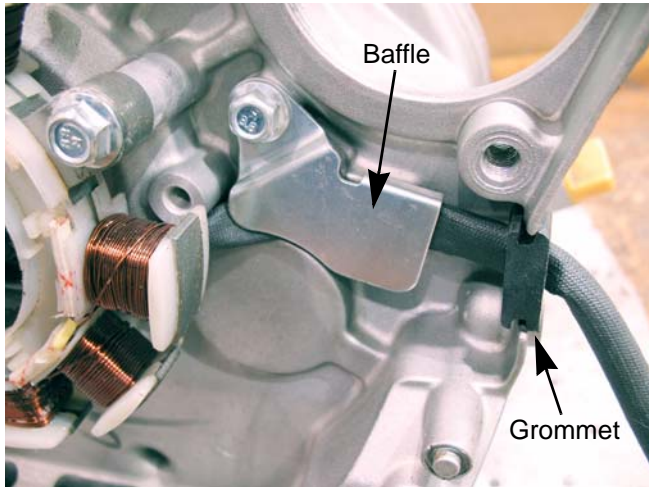

Figure 6.18
3. Remove the baffle that covers the charger harness using a 10mm wrench. See Figure 6.18.
4. Slide the grommet out of the engine block. See Figure 6.18.